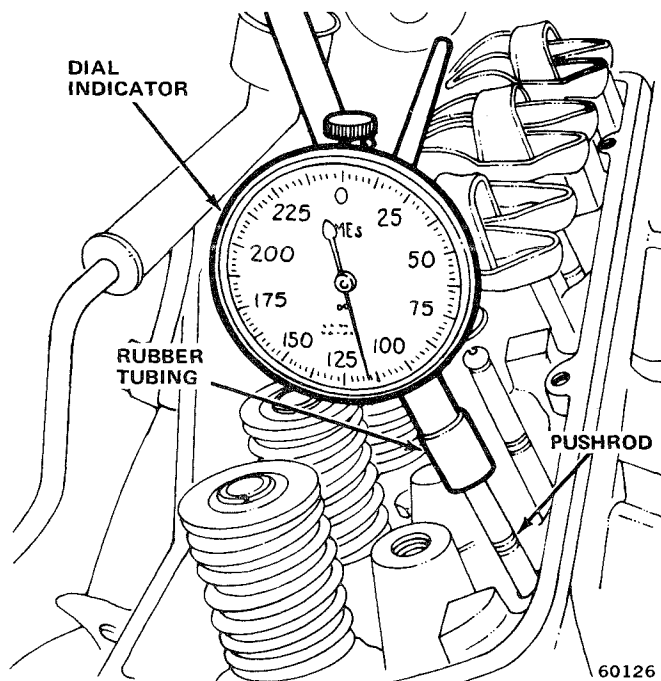

Fig. 1B-71 Cam Lobe Lift Measurement
- (1) Remove cylinder head cover and gasket.
- (2) Remove rocker arms and bridged pivot assemblies. Alternately loosen capscrews one turn at a time to avoid damaging bridge.
- (3) Remove spark plugs.
- (4) Use piece of rubber tubing to secure dial indicator on end of push rod (fig. 1B-71).